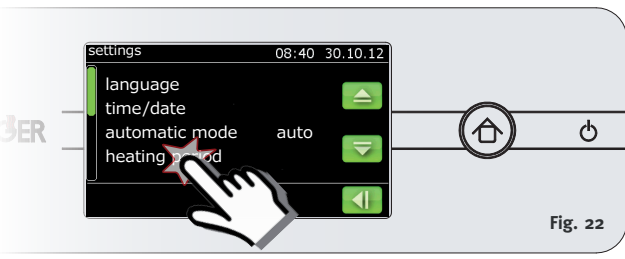

Fig. 22
1. Select **settings** --> **heating period** in the main menu (Fig. 22).